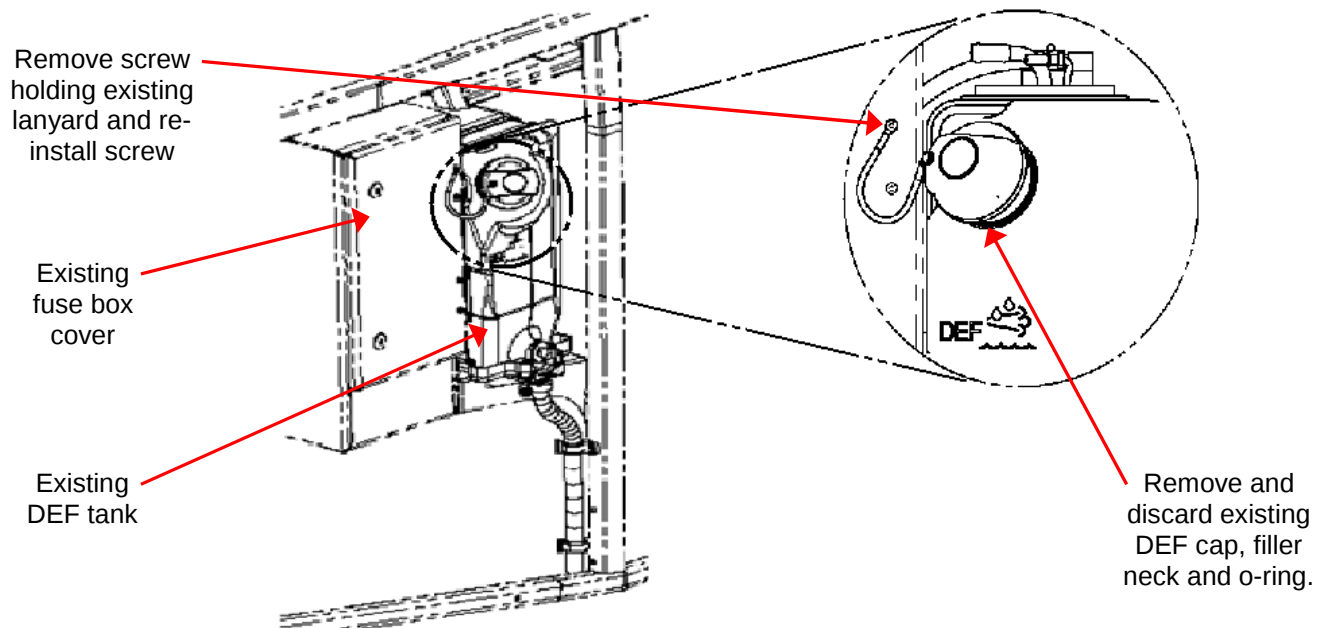

Figure 1: DEF Cap and Filler Neck Location
3. Remove the screw holding the DEF tank cap lanyard to fuse box. Remove and discard the lanyard and existing DEF cap. Re-install existing fuse box screw. See Figure 1.